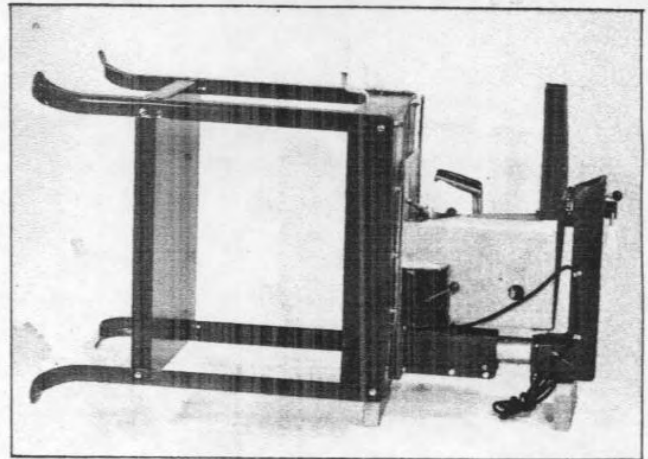

Fig. 5
4. Fasten the stand to the base of the saw, as shown in Fig. 5.